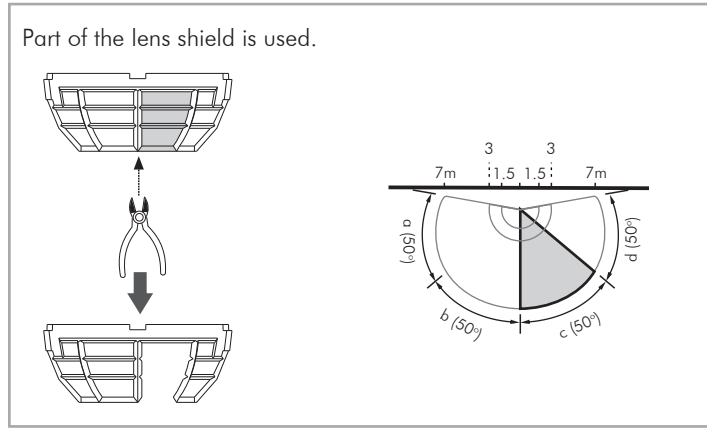

FIG.13-B
- The shadow part of the lens shields in the FIG.13-A & FIG.13-B is needed to be cut off.